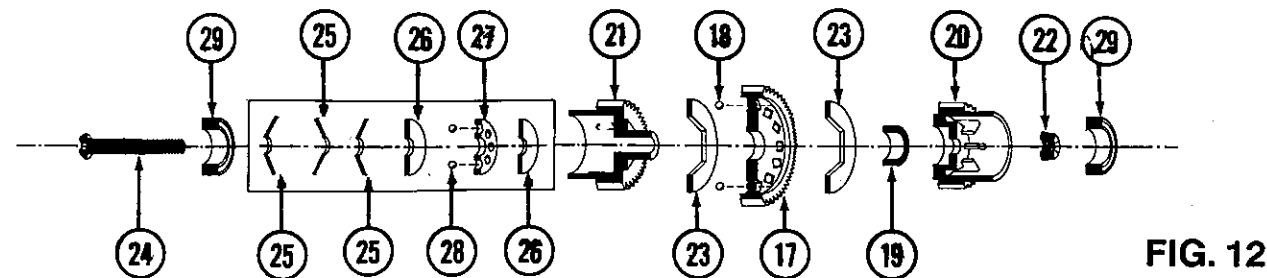
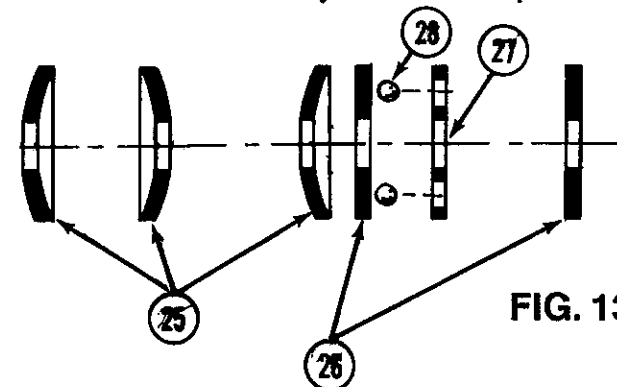

FIG. 12
FIG. 13
5. Insert 1/4" x 3/8" bearing (19) into female half of differential (20). Fig. 12.
* NOTE: This is the only bearing that will fit over male half of differential (21). Check to see that it does. Fig 12.
6. Insert 5-40 locknut (22) into opposite side of female half of differential (20). Fig 12.
7. Place one hex thrust washer (23) onto male half of differential (21) and other hex thrust washer (23) onto female half of differential (20). Fig 12.
8. Assemble differential by placing center differential gear (17) onto male half of differential (21) followed by female half of differential (20). Set aside, female half up, until step 10. Fig 12.
9. Using 5-40 x 7/8" button head shoulder screw (24) assemble thrust assembly in the following order. Fig. 13.
A. Slide through opposing belleville cone washers (25) down the 5-40 x 7/8" button head shoulder screw (24) with the top of the cone of the first washer (25) against the head of the screw (24).
* NOTE: The washers (25) should be opposing ie; the tops of the cones should meet and the bottoms of the cones should meet. Fig.13.
B. Slide one well greased thrust washer (26) down screw (24) shaft.
C. Slide bronze bearing cage (27) down screw (24) shaft.
D. Position 8 thrust ball bearings (28) into the holes in the cage (27).
E. Slide a second thrust washer (26) down screw (24) shaft.
10. Insert screw into thrust assembly into male half of differential (21), and thread into 5-40 locknut (22) in female half of differential (20). Fig.12.
11. Press a 5/16" x 1/2" bearing (29) into each end of differential assembly. Fig. 12.